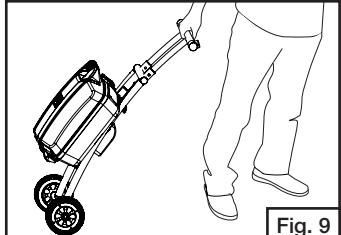

Fig. 9
- Once handle is locked in position, the grill can easily be moved to any location in your campsite or backyard. (Fig. 9)